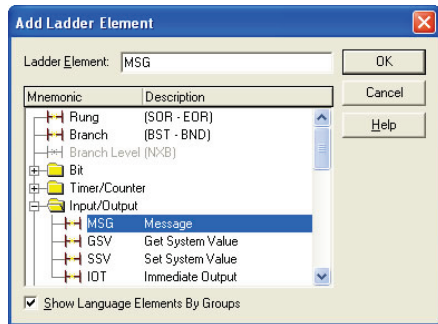

Figure 68: Adding a MSG Instruction
- d) Select the "MSG" instruction in the Input/Output folder. Refer to Figure 68.